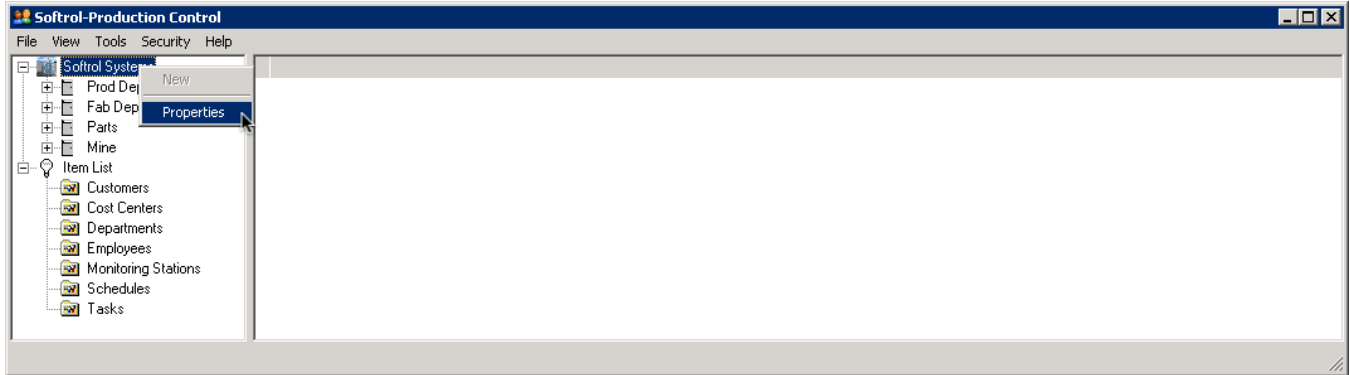

Figure 8. Softrol-Production Control Setup dialog: Set the Company Information
2. Right-click the highlighted text and select **Properties** (see Figure 8).